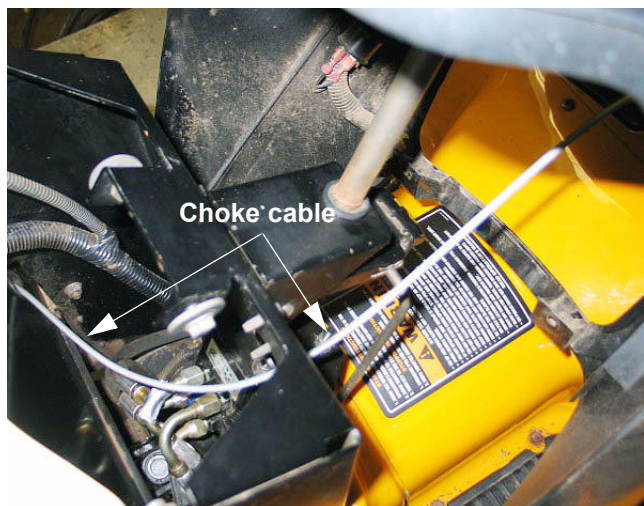

Figure 1.23
- 1.23. The choke cable on gasoline engined tractors passes through the large opening in the pedestal, below and to the left of the steering column bracket. See Figure 1.23.